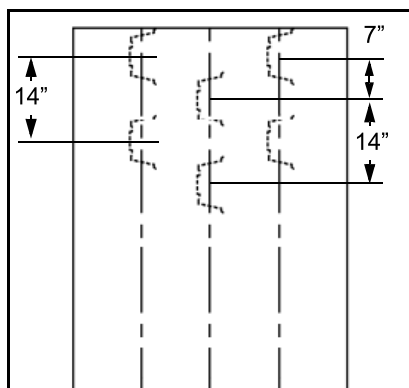

Figure 2.6
3. Offset the next floor support on each layout lines by 14" from the previous floor support (Figure 2.6). Supports on adjacent layout lines are offset by 7". Place the plank stiffener when included.